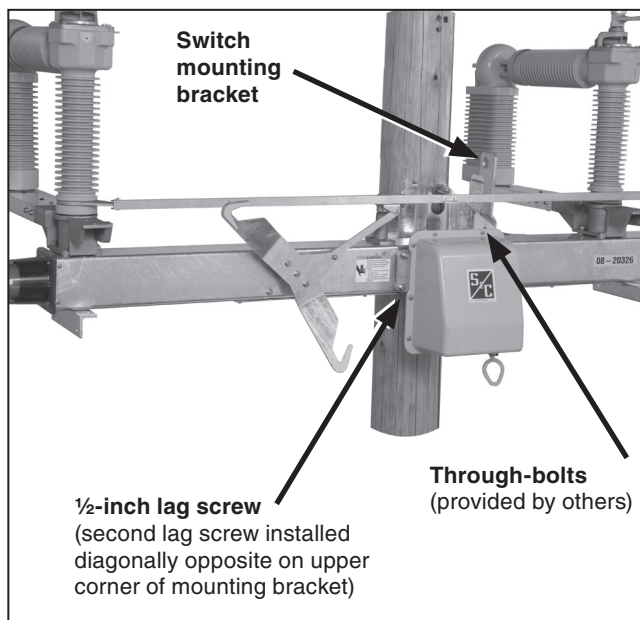
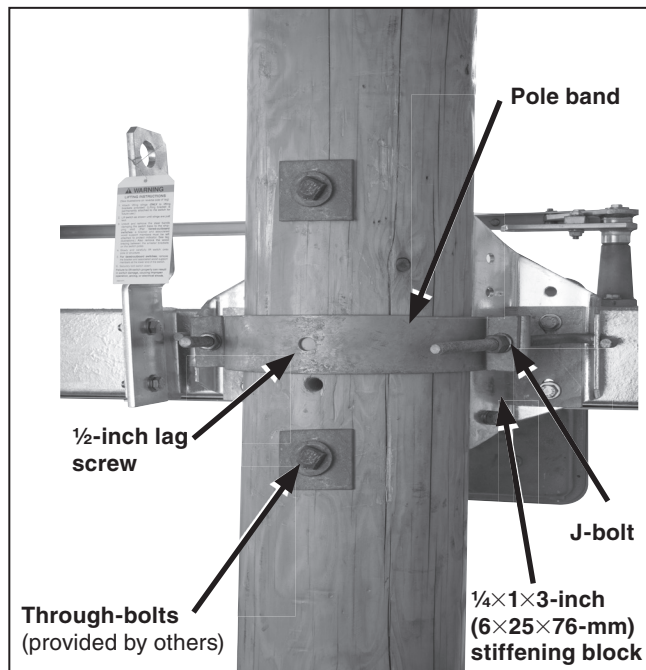

Figure 6. Guiding switch into through-bolts (vertical mounting configuration shown).
Figure 7. Securing pole band to mounting bracket (upright mounting configuration shown).
Handle and lift the switch, per appropriate configuration, as described in the “Handling” section on pages 7 through 9. When the switch is hoisted to its mounting level, guide the assembly so the through-bolts projecting from the utility pole slip into the holes in the switch mounting bracket. (The bracket is provided with a keyhole and an open slotted hole for this purpose.) Lower the switch slightly so it bears on the through-bolts. Fully tighten the through-bolts, making sure the flat washer for each bolt is between the bolt head and the switch mounting bracket. See Figure 6.
STEP 4. Secure the pole band (furnished) to the switch mounting bracket using the J-bolts provided. Two $\frac{1}{4} \times 1 \times 3$ -inch (6×25×76-mm) stiffening blocks are furnished to be used behind the pole-band flanges and underneath the J-bolt nuts. Fully tighten the nuts. Lag the pole band to the back side of the pole through the hole in the center of the band using one of the three $\frac{1}{2}$ -inch diameter lag screws provided. See Figure 7. Then, lag the switch mounting bracket to the pole using the two remaining $\frac{1}{2}$ -inch diameter lag screws. See Figure 6.